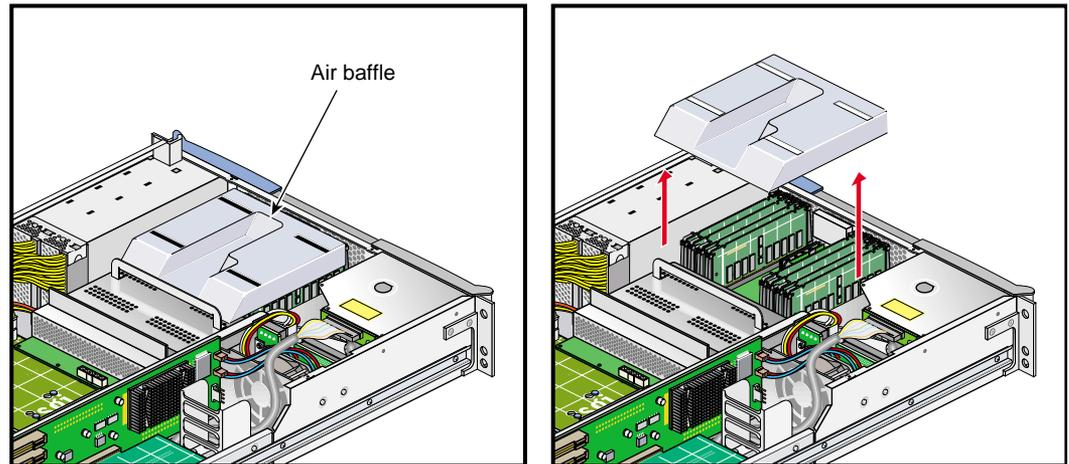

Figure 7-17 Removing the Plastic Air Baffle
7. Remove the plastic air baffle covering the DIMMs, as shown in Figure 7-17.